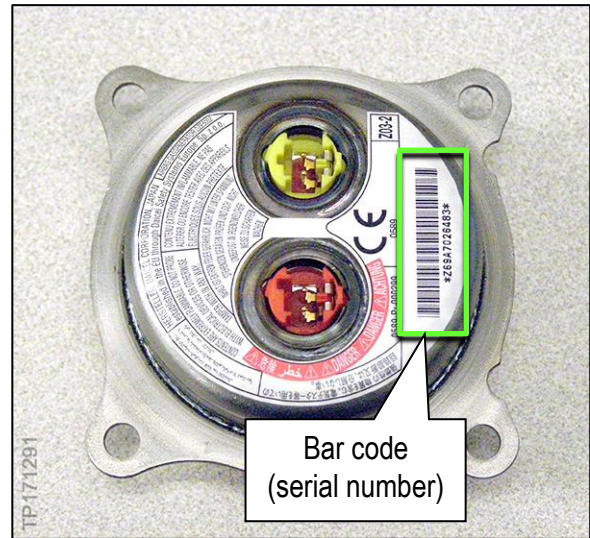

Figure 6
- Remove the inflator from the shipping box and locate the bar code label (see Figure 6).